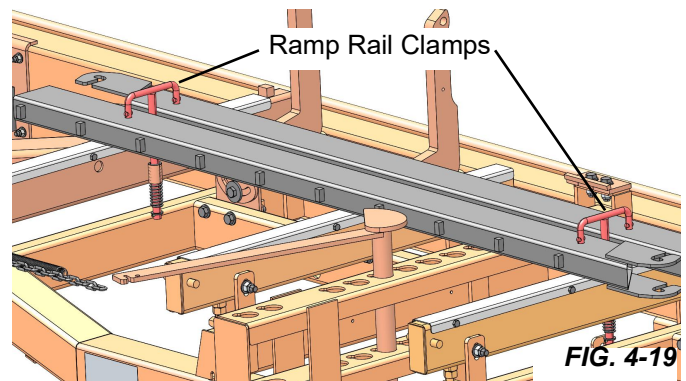

FIG. 4-19
17. Secure log loading ramp rails with travel clamps. See Fig.4-19.